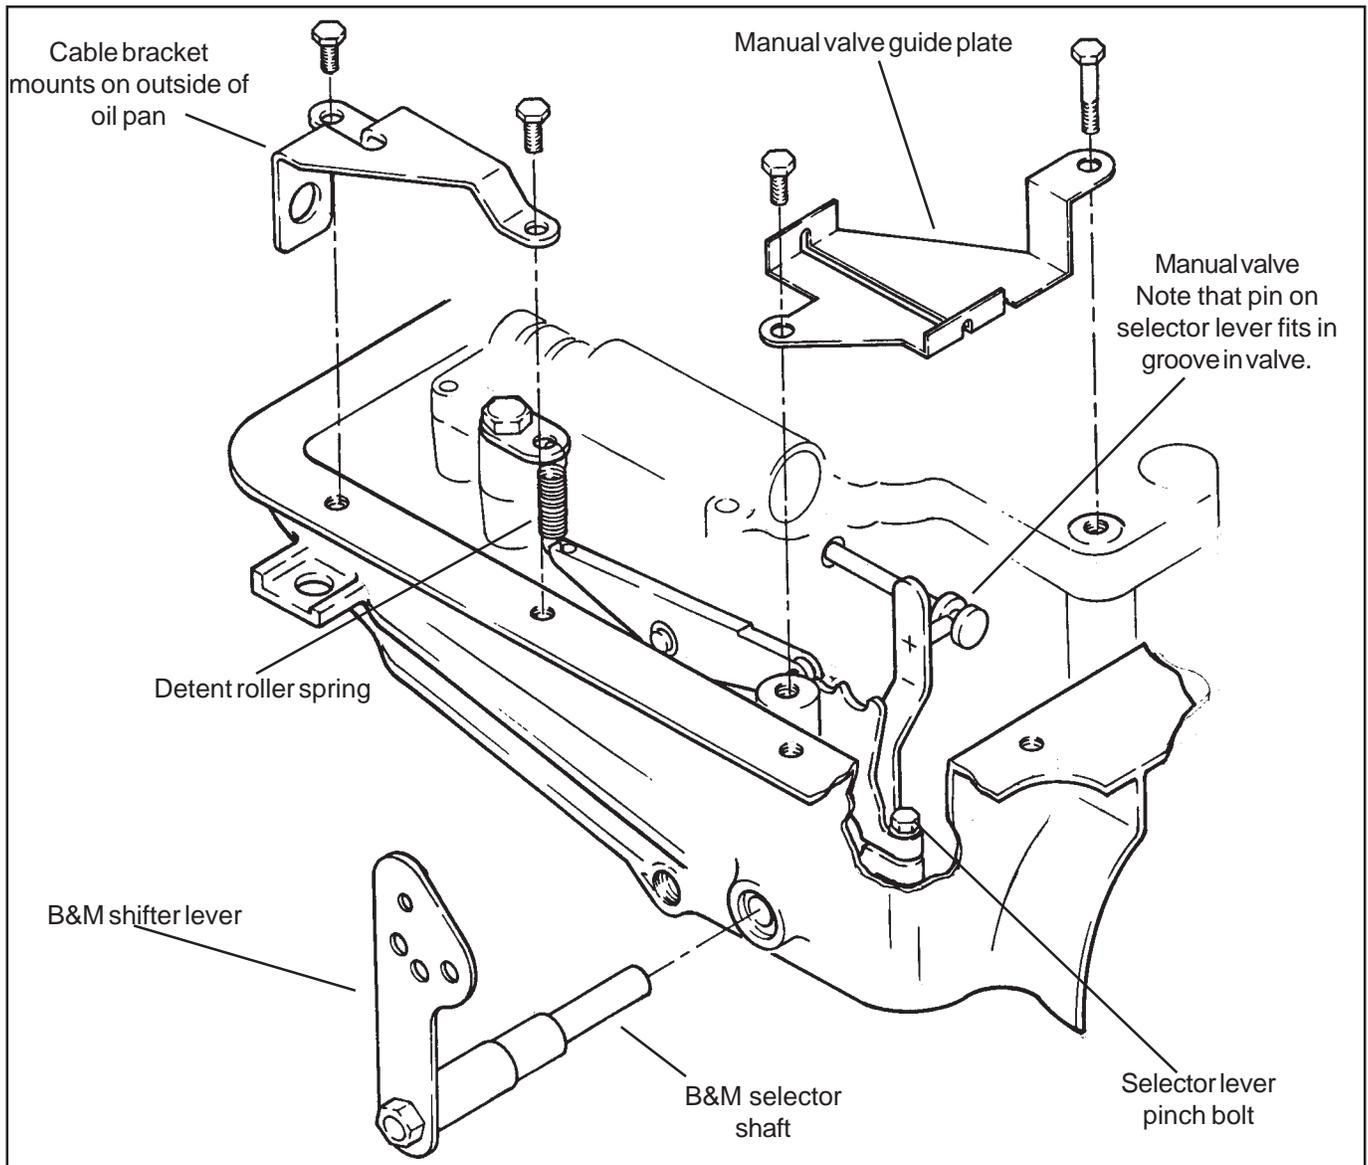

Figure 8
STEP 27. Remove the manual valve guide plate by removing the two bolts (**See Figure 8**). Unhook and remove the detent roller spring. Allow the detent roller to pivot out of the way. Note how the pin on the manual valve selector engages the groove in the manual valve.
STEP 33. Install the cable bracket into position with the two remaining pan bolts (**See Figure 8**). Install the **B&M** lever onto the shaft with the lever pointing down. If your cable comes from the front (usually a rear engine car) the lever is installed pointing upwards. You will have to make your own cable bracket for this installation.